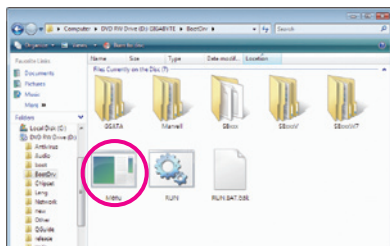
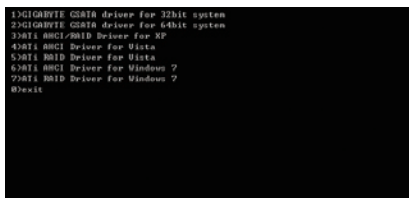

Figure 2
Figure 3
- 2: From your optical drive folder, double click the Menu.exe file in the BootDrv folder (Figure 2). A Command Prompt window will open similar to that in Figure 3.
- 3: Insert the blank formatted disk. Select the controller driver by pressing the corresponding letter from the menu and press <Enter>. For example, from the menu in Figure 3, to install Windows XP to the RAID/AHCI hard drives, select **3) ATi AHCI/RAID Driver for XP**.